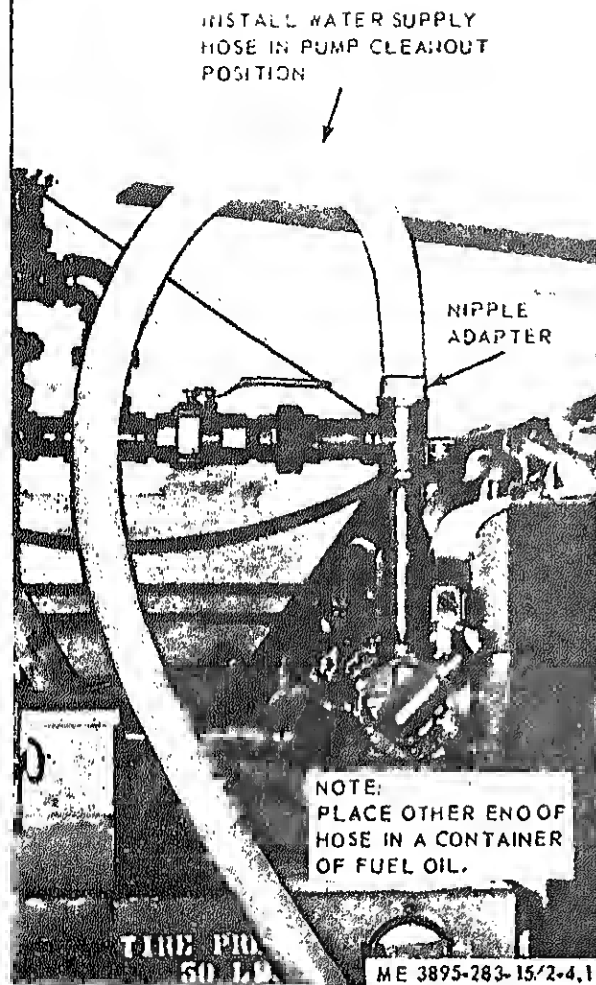

Figure 2-4.1.
- Step 1 Check to see that valves (A) and (J) are closed.
- Step 5 Remove plug (G).
- Step 6 Open valve (B).
- Step 7 Engage asphalt pump clutch lever (E) and pour fuel oil into opening (G); or attach one end of a hose to (G) and place the other end in a container of fuel oil. This allows fuel oil to be pumped through the system and into the pugmill (fig. 2-4.1).
- Step 8 Disengage asphalt pump clutch (lever at E), and fill line with fuel oil before replacing plug (G). This allows fuel oil to stand in the line and pump.